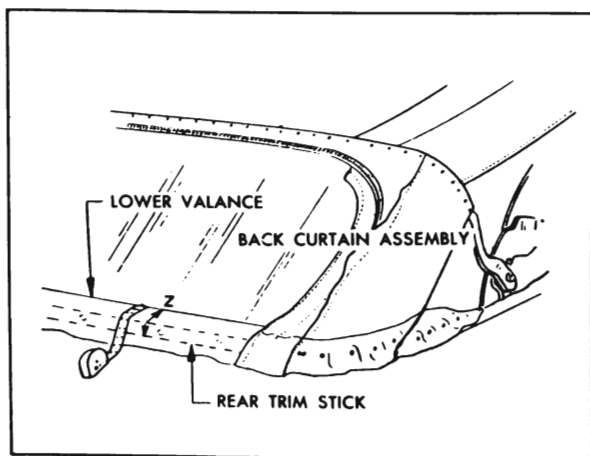

Figure 7-27—Measuring Back Curtain
13. Remove rear trim stick with attached back curtain assembly and top compartment bag from body and place on clean surface. Measure and record dimension "Z" between lower surface of rear trim stick and upper edge of back curtain lower valance (see Figure 7-27). Back curtain assembly may now be detached from rear trim stick.